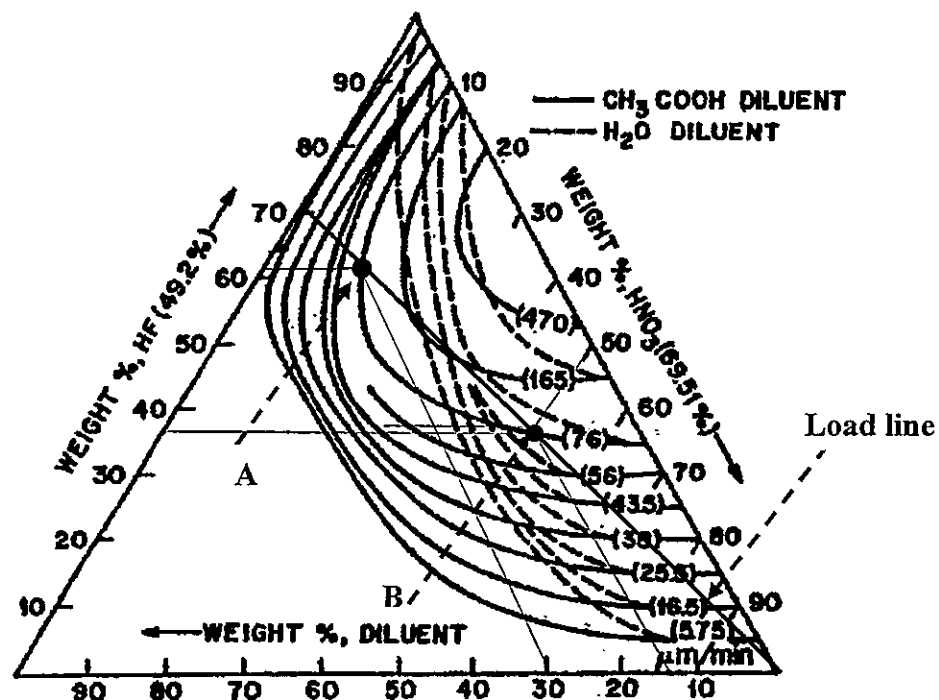

Figure 4
4. (a) Figure 4 shows the isoetch curve for silicon using $\text{HF}:\text{HNO}_3:\text{CH}_3\text{COOH}$ etchant. Identify the particular load line drawn in the figure. The load line intersects the etch rate contour line of $76 \text{ } \mu\text{m/min}$ at two points, A and B as shown in the figure. For point A, name the controlling etching agent, and for point B, determine the respective percentage of the etchant constituents.